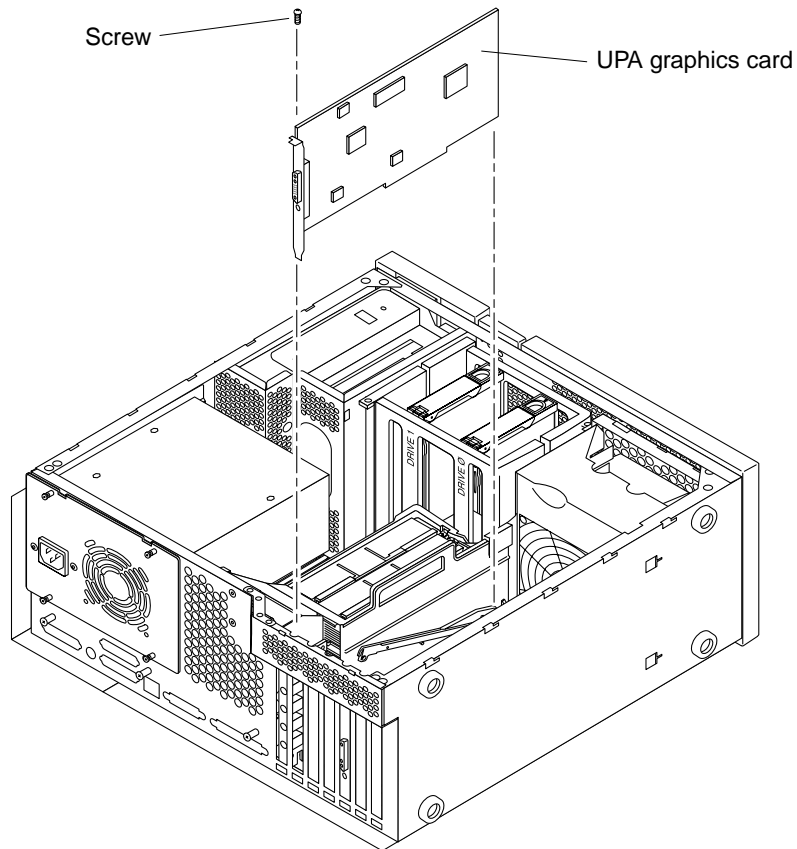

FIGURE 10-4 Removing and Replacing a UPA Graphics Card
5. Remove the UPA graphics card as follows (FIGURE 10-4):
1. **Replace the UPA graphics card as follows (FIGURE 10-4):**